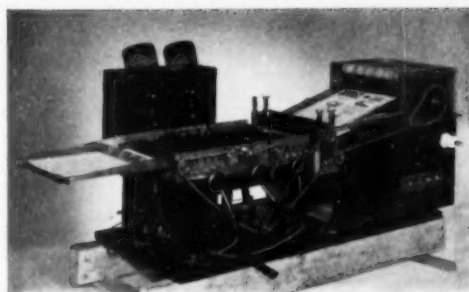
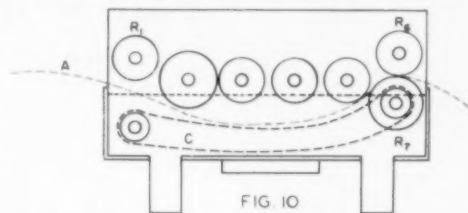

FIG. 9. Machine for the rapid processing of paper sheets.
FIG. 10. Sectional view of developer tank in machine illustrated in Figure 9.
A machine designed by H. D. Russell and the author for the rapid processing of paper sheets is shown in Figure 9 and consists essentially of three adjacent shallow processing tanks, a pair of squeegee rollers, and a drier. The processing tank is shown in section in Figure 10. The paper (A) is fed into the shallow tank containing developer and rides on a series of endless chains at C, the rolls, R1 to R6, serving to keep the paper completely immersed. On leaving the tank, the paper is carried over roll R7, the excess developer being squeezed by roll R6. The paper then enters the fixing and washing tanks in a similar manner and is squeezed between rubber wringer rollers before entering the drier.